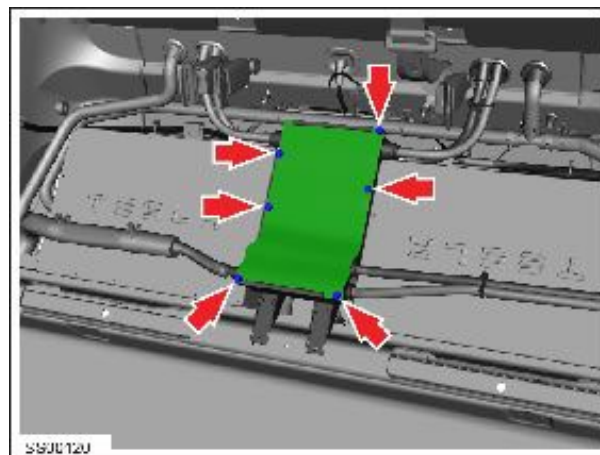

Figure 2
- a. Remove the bolts (x6) that attach the HVJB box cover (Figure 2).